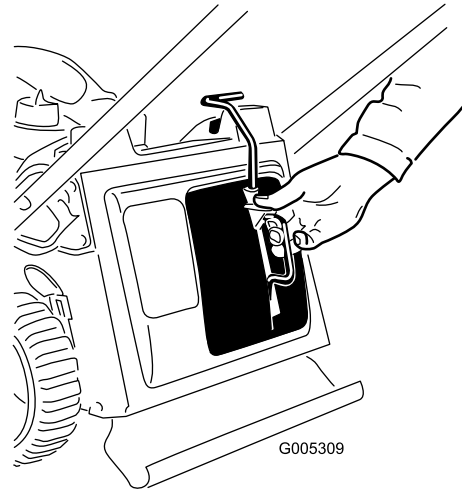

Figure 36
3. Insert the mulch plug (Figure 36).